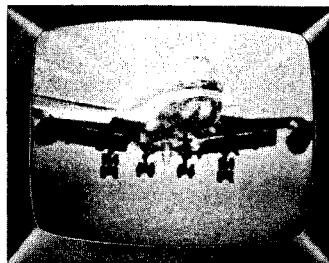

Fig. 24
2. When the still image has a noise shown in Fig. 24, lessen it by turning the Take-up Reel ② slowly with your hand.